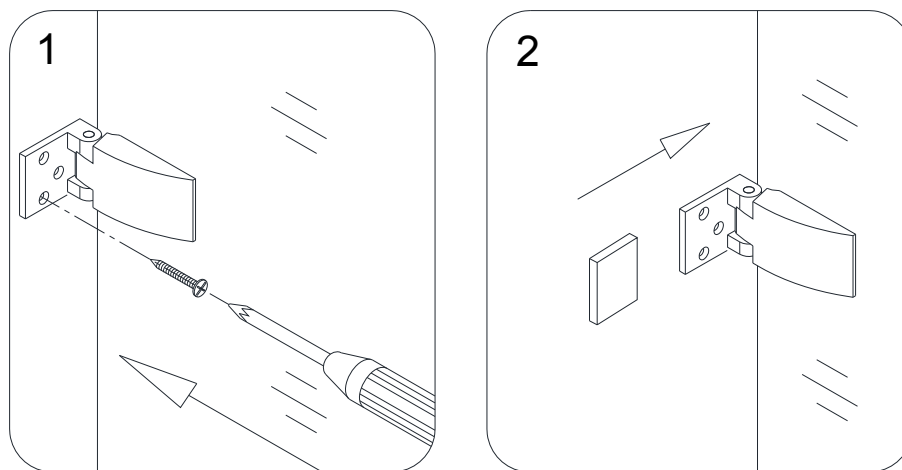

Fig 4
4. Place the **Door Glass (#01)** back into position onto the 3/8" shims on the tub deck and secure the **Hinges (#05)** to the wall using the **Flat head screw ST4.2×60 (#04)**. Snap the decorative covers back onto the wall plates (Fig 4)